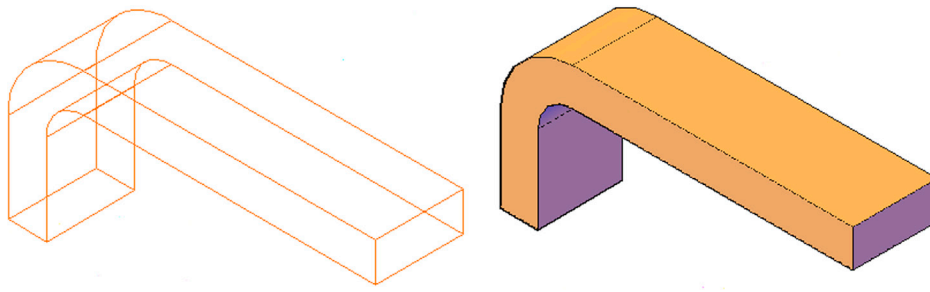

FIGURE 24.41 Rectangle sweep.
Step 3. Select the path and the sweep is produced, as seen shaded and colored in the SE Isometric view in Fig. 24.41.